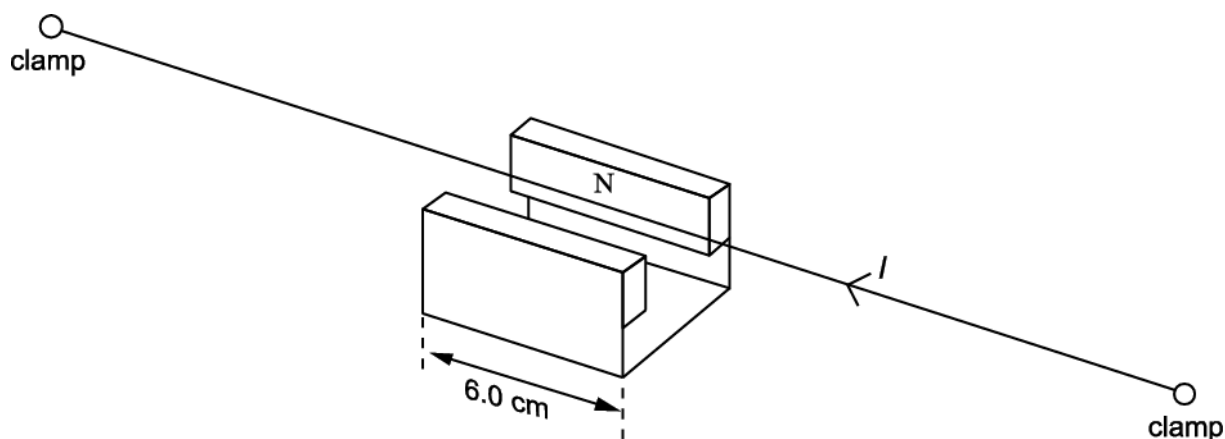

Fig. 5.1
- 6(a) Fig. 5.1 shows a horizontal copper wire placed between the opposite poles of a permanent magnet. The wire is held in tension T by the clamps at each end. The length of the wire in the magnetic field of flux density 0.032 tesla is 6.0 cm.